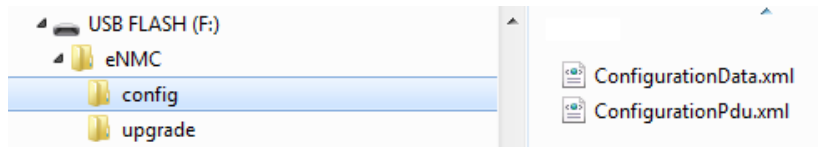

Figure 56. Example USB Flash Drive Root
2. Insert a USB device in the USB port. Verify the USB flash disk contains the eNMC/config directory located at root of USB flash disk (see Figure 56).